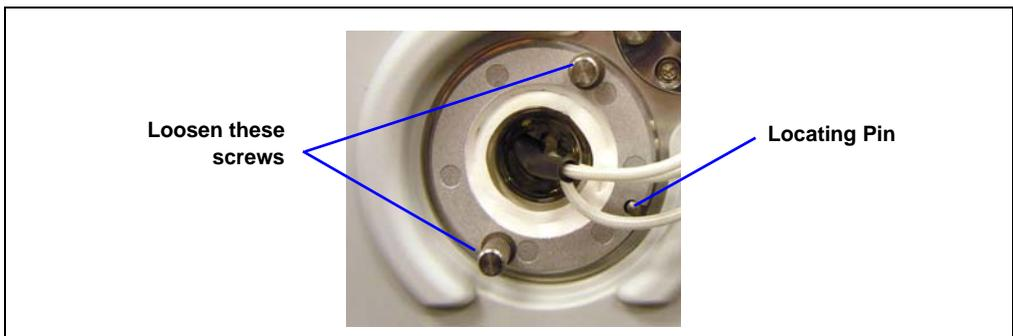

Figure 5-3. Deuterium Lamp Screws and Locating Pin
7. Loosen the two screws in the lamp flange (see Figure 5-3) and pull out the lamp.
9. Align the flange of the new lamp with the locating pin (see Figure 5-3), and then gently push the lamp into the lamp housing. When the lamp is seated, tighten the screws in the flange.